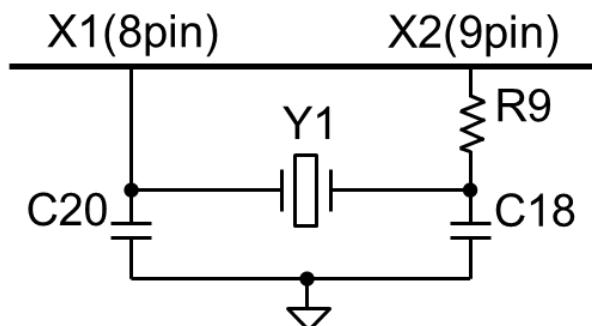

Figure 2-2 Crystal oscillator circuit connection example
- Figure 2-2 shows a connection example of the crystal oscillator circuit.